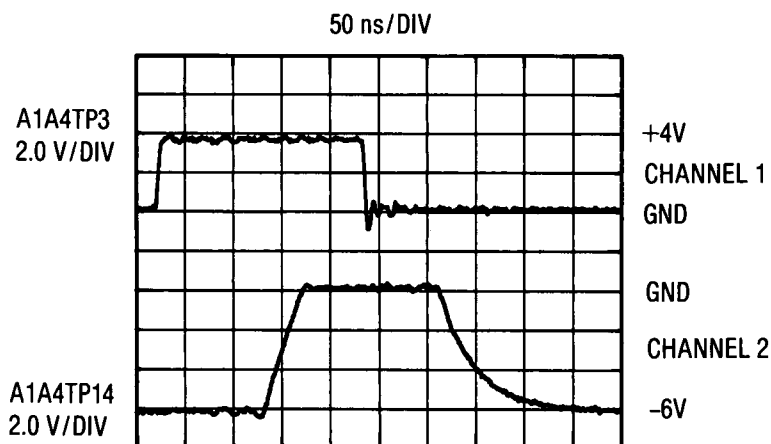

Figure 8-57. Pulse Drive Board Input Pulse and Sample Pulse
22. Connect channel 1 of the oscilloscope to A1A4TP3 and Channel 2 to A1A4TP14. Adjust the oscilloscope as shown in Figure 8-57 and compare the oscilloscope display to the figure.